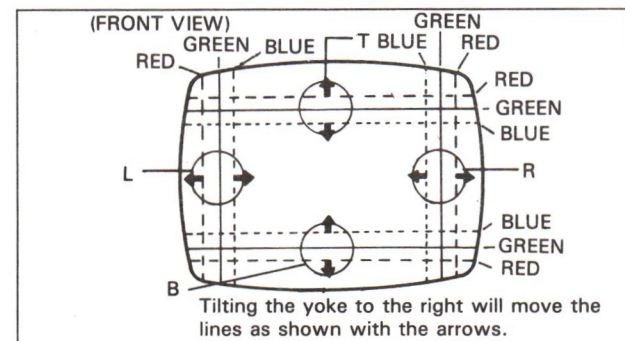

Fig. 5
3. Maintaining that situation, oscillate the deflecting yoke right and left and set the convergence of points, L, R, T and B, on the screen. (Fig. 5)